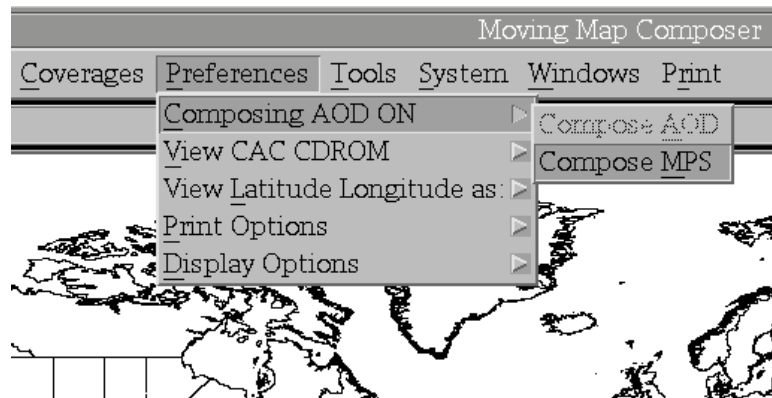

Fig. 26 – Composing preferences
- ◆ When switched to *Composing MPS ON* – by clicking on the *Compose MPS* option (Fig. 26) – MMC will compose an image based on the restrictions of MPS images (e.g., image size). A message box appears to confirm selection of this option. DTED data is only available under the *Compose MPS* preference.